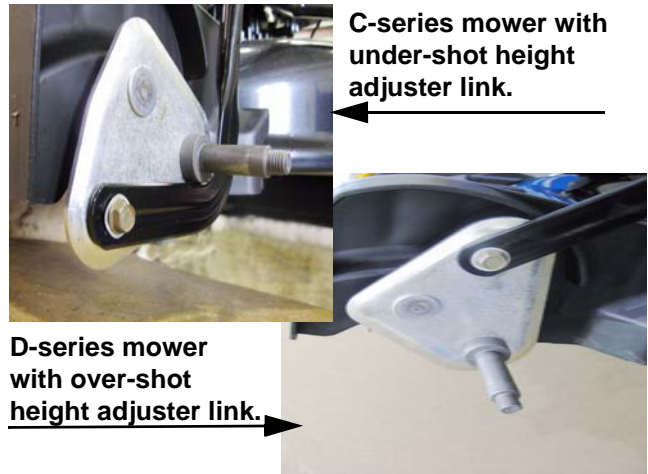

Figure 4.24
2. Set the height adjuster to the highest mowing position. See Figure 4.24.